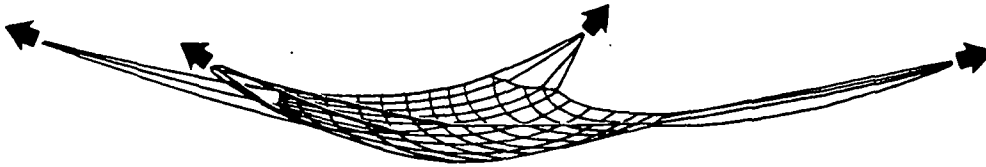

Figure 7-5. Fully Extended Net
Step 1 - Spread the net out on the ground. Have four persons pull evenly on each of the four lifting legs to open the net to its fullest extension over the spot where the net is to be loaded (Figure 7-5). This will prevent the net from shifting under the pallets or load when the helicopter lifts the net.